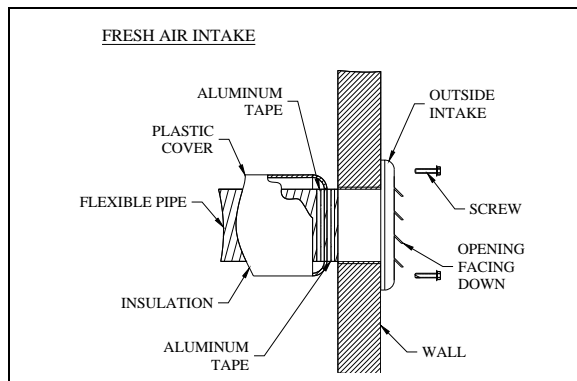
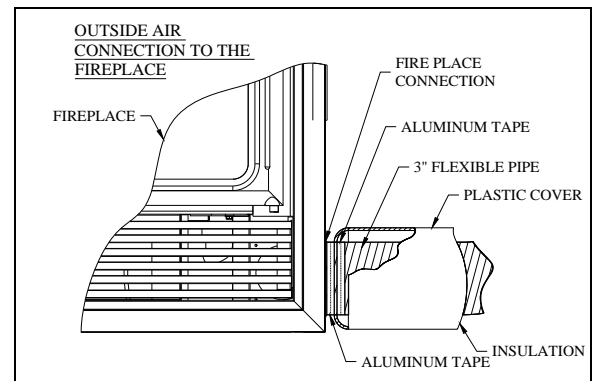

Figure 27
Figure 28
Make a 3 1/4" (83 mm) hole in the outside wall of the house at the chosen location. From outside, place the outside air register in the hole (open side down) and fasten the register to the wall, with screws as shown (see figure 27). Place the insulated pipe over the register tube and over the fireplace's outside air connector (see figure 28). At each end, carefully pull back the insulation and plastic cover, exposing the flexible pipe. Attach the flexible pipe using pipe clamps. For a better seal, you may also use aluminum tape. Wrap the tape around the joint between the flexible pipe and the air inlets. Carefully push the insulation and plastic cover back over the pipe. Fix the plastic in place using aluminum tape.
- 5) Secure a 3" insulated flexible conduit (not included) to the stove's adapter and the outside termination (not included) with the 2 adjustable straps (not included) figure 27, 28 & 33.